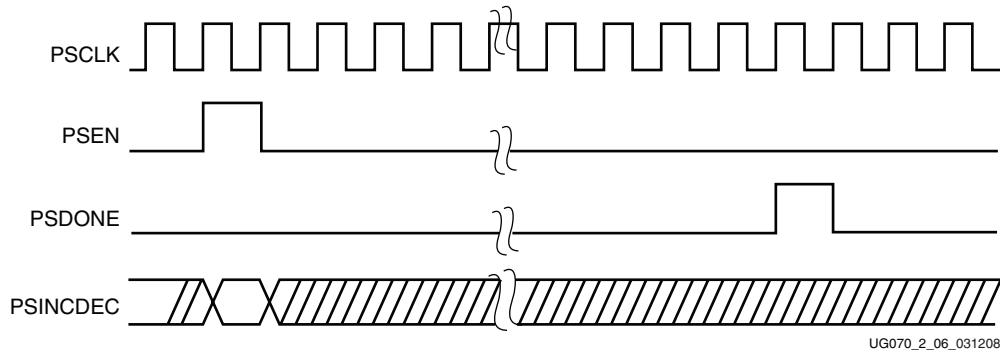

Figure 2-7: Phase-Shift Timing Diagram
Figure 2-7 illustrates the interaction of phase-shift ports.
When PSEN is activated after the phase-shift counter has reached the maximum value of PHASE_SHIFT, the PSDONE will still be pulsed High for one PSCLK period some time after the PSEN is activated (as illustrated in Figure 2-7). However, the phase-shift overflow pin, STATUS(0), or DO(0) will be High to flag this condition, and no phase adjustment is performed.